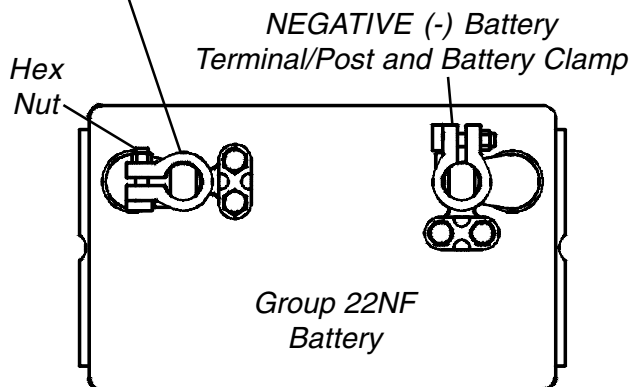

FIGURE 4 - CONNECTING BATTERY CABLES - BATTERY CLAMP METHOD
BATTERY CLAMP METHOD (FIGURES 4, 5 AND 6).
1. Perform one (1) of the following:
- A. If the battery clamp of the POSITIVE (+) battery terminal/post is **NOT** mounted in the orientation shown in FIGURE 4, perform the following:
- B. If the battery clamp on the POSITIVE (+) battery terminal/post is positioned as shown in FIGURE 4, proceed to STEP 2.
- Reposition the battery clamp on the POSITIVE (+) battery terminal/post as shown in FIGURE 4.